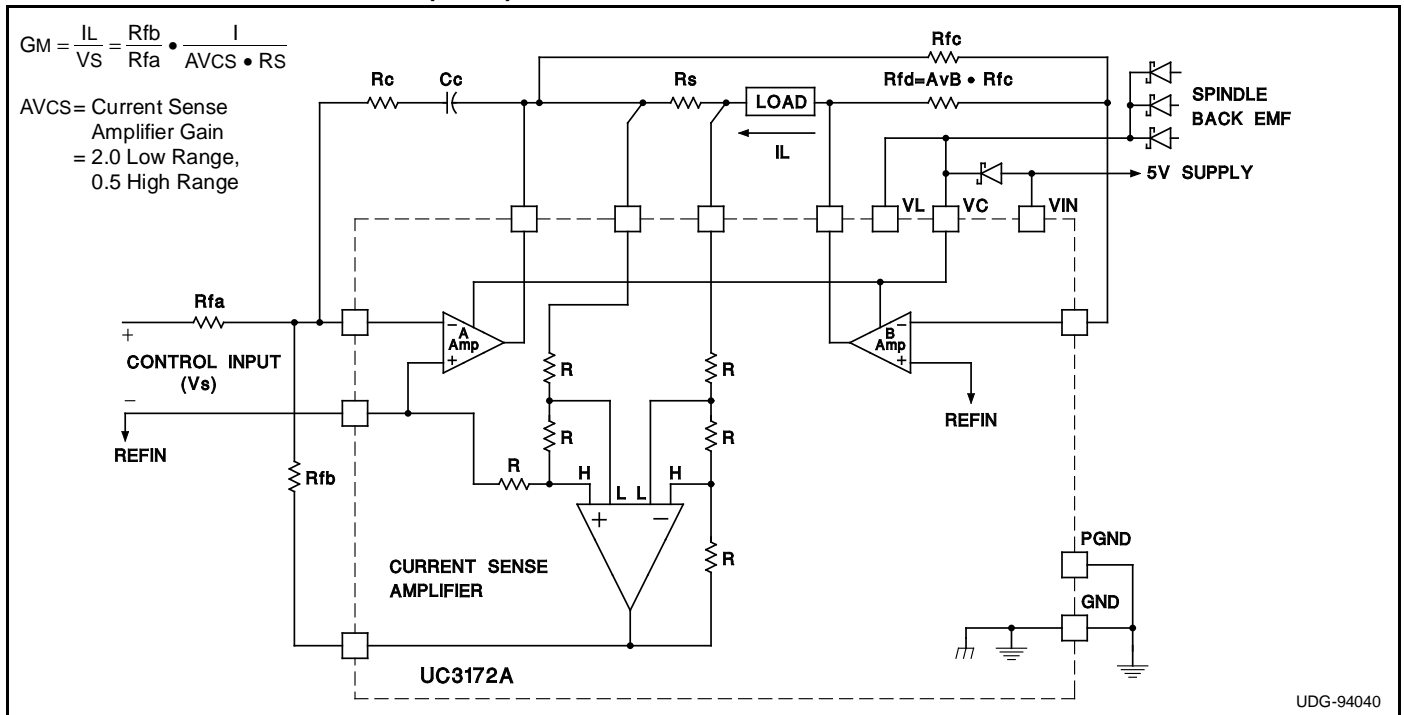

Figure 1. Typical Application
The following is a simple design flow that can be used to configure the UC3172A or UC3173A Full Bridge Power Amplifiers as shown in Figure 1.
- E. The normal configuration for compensation of the power amplifier is shown in Figure 1. A simple RC network, RcCc, around the A amplifier is all that is required.
In the closed loop transconductance amplifier, the A amplifier operates at the highest noise gain. Noise gain is a measure of the feedback ratio at which the amplifier is operating. For the configuration of the A amplifier in Figure 1, the noise gain is given by the impedance ratio of the RC-CC series network, to the parallel combination of RFA and RFB. For the A amplifier to operate at its expected closed loop gain, the noise gain at any frequency must not exceed its Gain Bandwidth Product (GBW) divided by that frequency. Applying this to the expression above will yield a result for the maximum 3dB bandwidth that can be achieved for a given configuration.